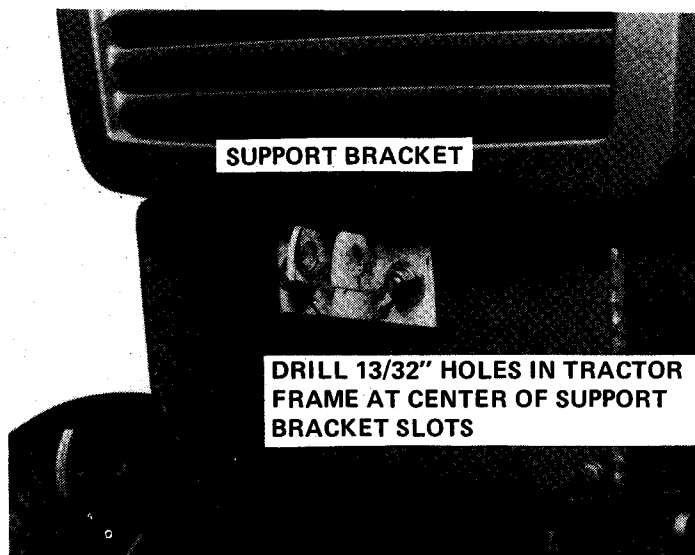

FIGURE 4
IMPORTANT: DRILL HOLES AT CENTER OF SUPPORT BRACKET MOUNTING HOLES. [See Figure 4].
9. Attach support bracket to tractor frame with two 3/8" x 1" cap screws, flat washers, lockwashers and nuts as shown in Figure 4. DO NOT TIGHTEN CAP SCREWS.